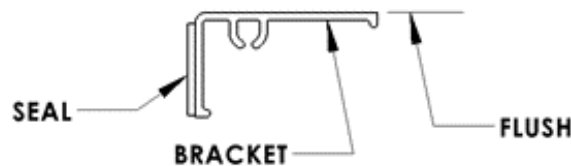

FIGURE 1
- b. Inspect the (2) Long Brackets w/Seals (A) to confirm that the Seal is held tightly to the bracket along the full length.
- c. If the seal is not held tightly to the bracket at any point along the length, then press the seal tightly at this point ensuring seal and bracket are flush as shown below (Figure 1). Repeat for any area that is not held tightly.
- d. Repeat steps 2b-2c for the (2) Short Brackets w/Seals (B).